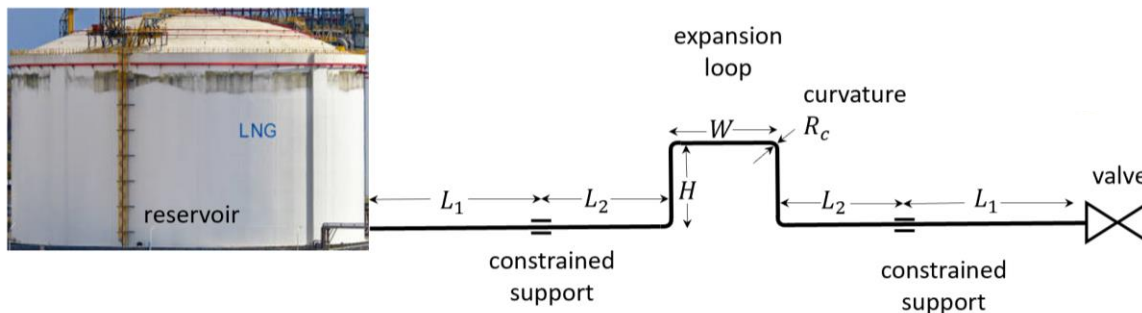
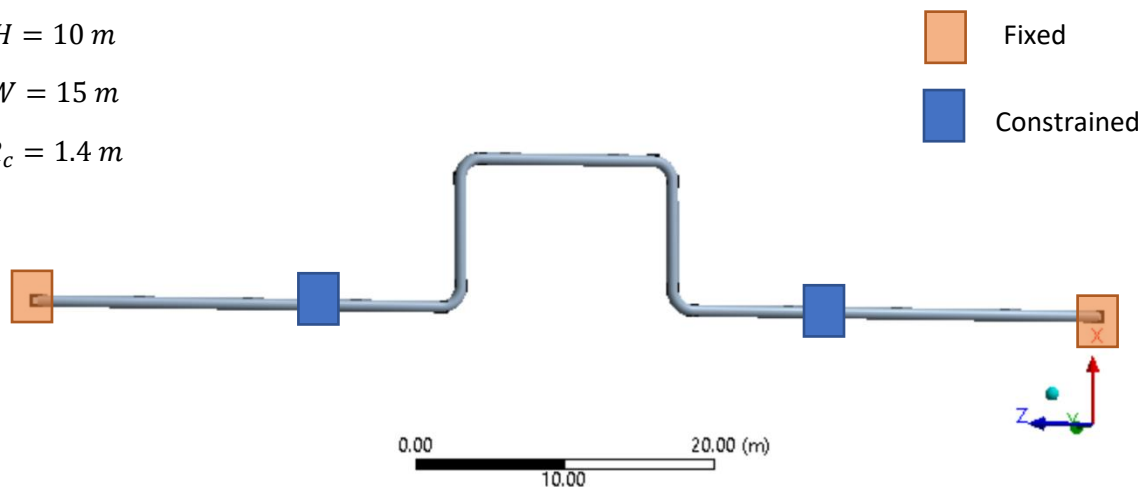

Figure 1: (a) Photograph of a 2D expansion loop, (b) schematic of the problem analysed with the dimensions of the piping network to be analysed shown.
Figure 2: Schematic of the model in ANSYS Modal workbench.
- (b) Perform a modal analysis on the expansion loop (filled with LNG) shown in figure 1(b) and figure 2. Note the location of fixed joints and lateral constraints. You need to decide and justify the choice of the constraints applied here.